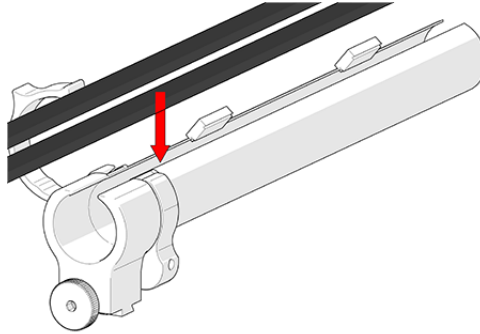

Figure 3-52 Insert cables and hoses
1. Open the zipper tube and cable clip. Begin at the tube's dovetail mount and place the cabling in the tube (see Figure 3-52 on page 74).